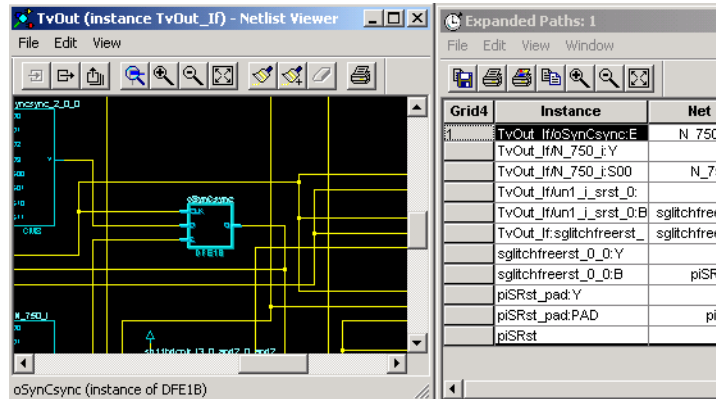

Figure 2-15. Instance in Timer is Highlighted in Netlist Viewer
7. **Select an instance in the Expanded Paths grid or in the Chart Window.** The instance is highlighted in the Netlist Viewer, as shown in Figure 2-15.